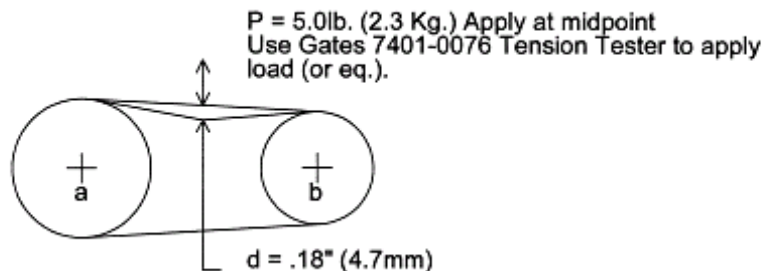

Figure 2: Belt Tension Inspection
- n. Verify proper belt tension as shown in the illustration shown in Figure 2 below.